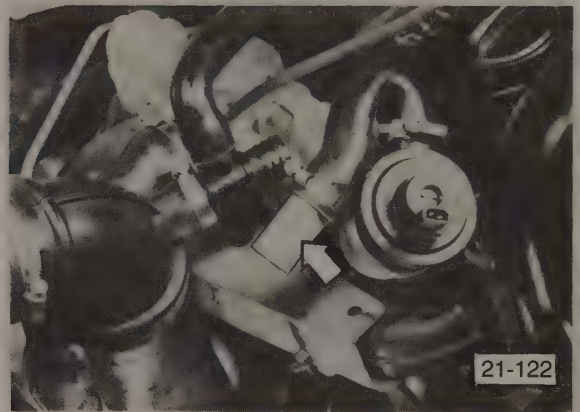

Fig. 7-6. Blow-off valve outlet hose disconnected and plugged (arrow).
8. Disconnect the blow-off valve outlet hose from the intake air duct. Plug the hose (inside diameter approximately 25 mm or 1 in.) and secure the plug with a hose clamp, as shown in Fig. 7-6.